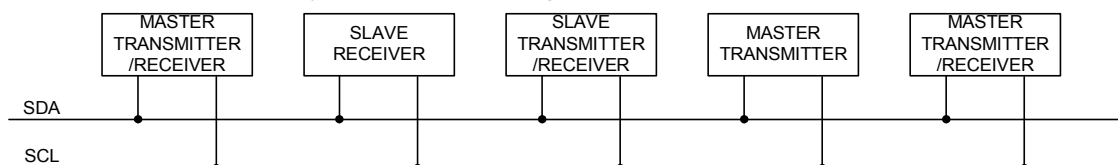
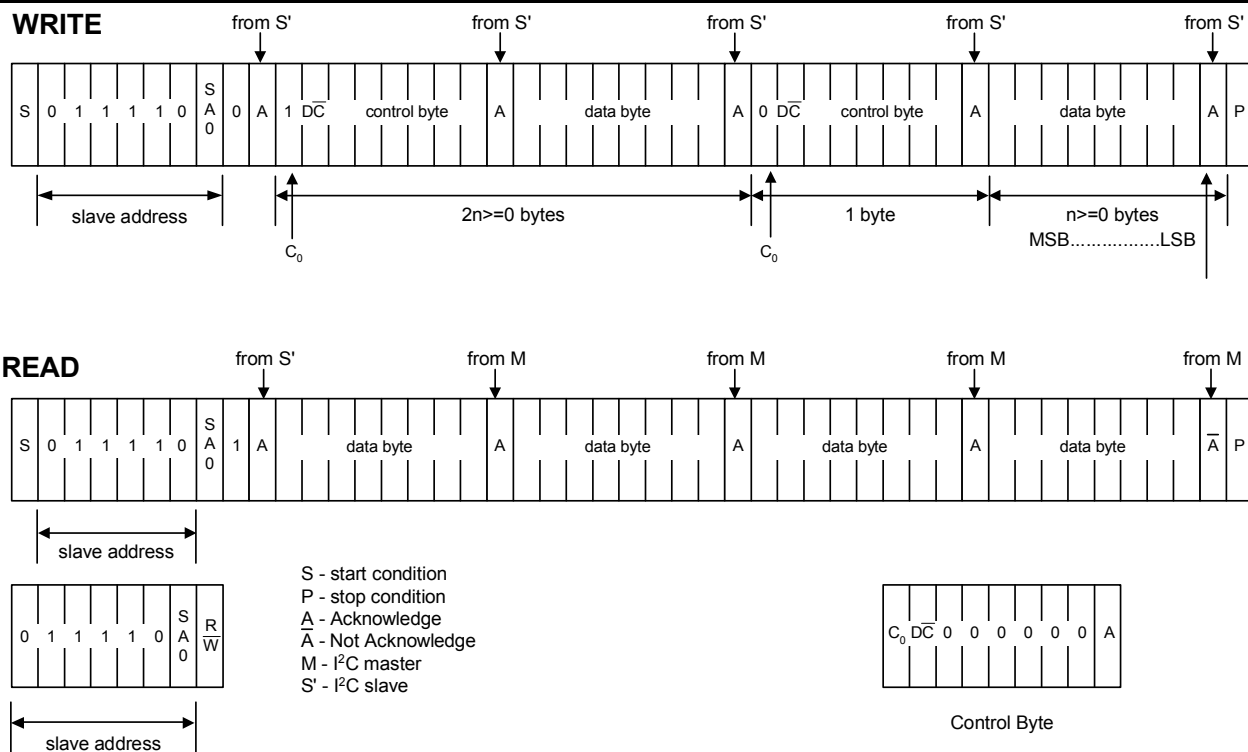

Figure. 7 System configuration
Figure 9 I²C Protocol
The SH1122 supports both read and write access. The R/\bar{W} bit is part of the slave address. Before any data is transmitted on the I²C-bus, the device that should respond is addressed first. Two 7-bit slave addresses (0111100 and 0111101) are reserved for the SH1122. The least significant bit of the slave address is set by connecting the input SA0 to either logic 0 (VSS) or 1 (VDD1). The I²C-bus protocol is illustrated in Fig.9. The sequence is initiated with a START condition (S) from the I²C-bus master that is followed by the slave address. All slaves with the corresponding address acknowledge in parallel, all the others will ignore the I²C-bus transfer. After acknowledgement, one or more command words follow which define the status of the addressed slaves. A command word consists of a control byte, which defines Co and D/\bar{C} (note1), plus a data byte (see Fig.7). The last control byte is tagged with a cleared most significant bit, the continuation bit Co. After a control byte with a cleared Co-bit, only data bytes will follow. The state of the D/\bar{C} -bit defines whether the data-byte is interpreted as a command or as RAM-data. The control and data bytes are also acknowledged by all addressed slaves on the bus. After the last control byte, depending on the D/\bar{C} bit setting, either a series of display data bytes or command data bytes may follow. If the D/\bar{C} bit was set to '1', these display bytes are stored in the display RAM at the address specified by the data pointer. The data pointer is automatically updated and the data is directed to the intended SH1122 device. If the D/\bar{C} bit of the last control byte was set to '0', these command bytes will be decoded and the setting of the device will be changed according to the received commands. The acknowledgement after each byte is made only by the addressed slave. At the end of the transmission the I²C-bus master issues a stop condition (P). If the R/\bar{W} bit is set to one in the slave-address, the chip will output data immediately after the slave-address according to the D/\bar{C} bit, which was sent during the last write access. If no acknowledge is generated by the master after a byte, the driver stops transferring data to the master.